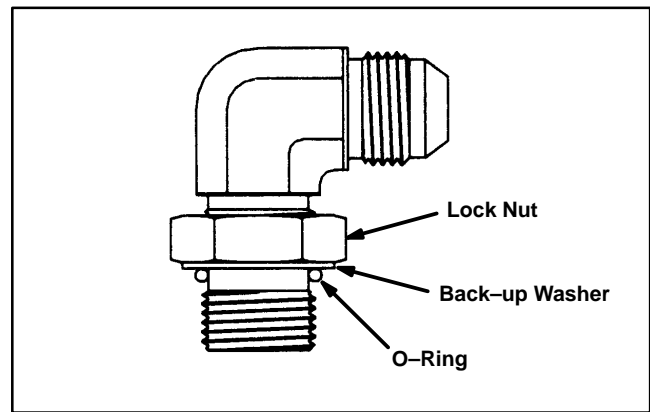

Figure 5
**SAE Straight Thread O-Ring Port – Adjustable (Fig. 5, 6)**